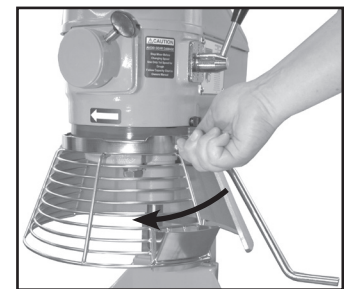

fig. 8-2
2. Once separated, take hold of the lower separated handle and continue turning the guard clockwise until the bowl guard releases from the ring catch on the mixer. (see fig. 8-2)